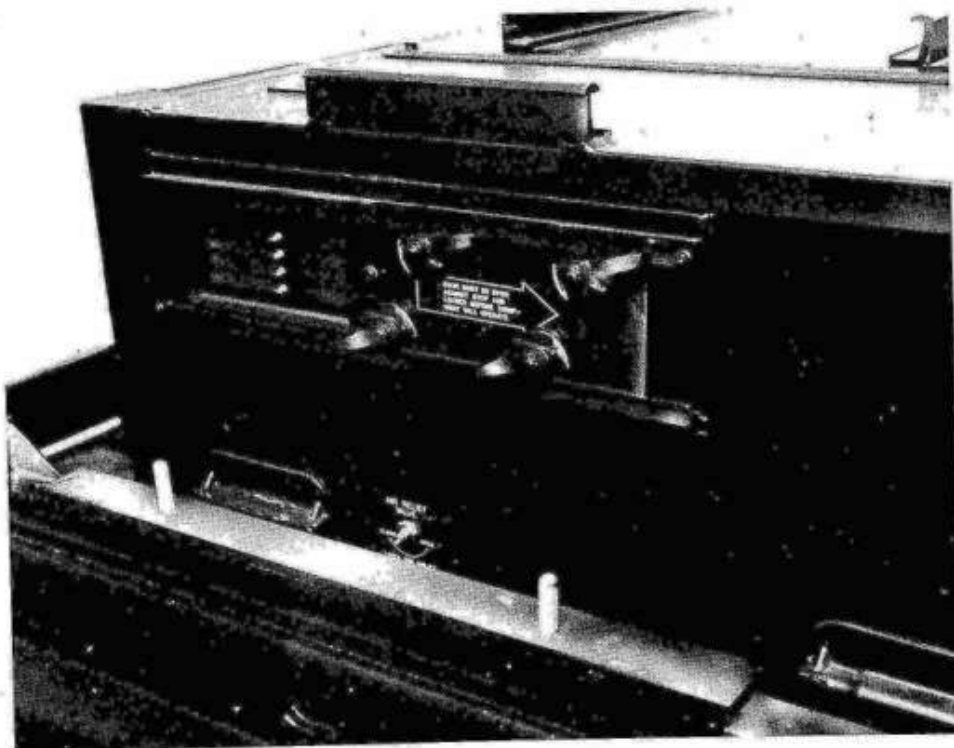

FIG 20 - VENTILATION - RADIO SET AN/TRC-75 (DUPLEX)
- (f) Open the ventilation door on Radio Set AN/TRC-75 (see para 65 and Fig 20).
Radio Set AN/TRC-75 cannot be operated until the ventilation door is fully opened and locked in position. This door is accessible from the right side of the vehicle - refer to paras 65 and 127 (f) and Fig 20.